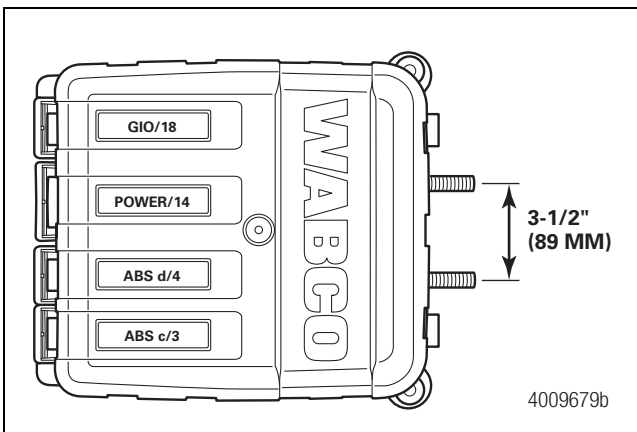

Figure 6.7
- Attach to the cross member. The center-to-center distance between the two holes must be 3-1/2-inches (89 mm) and mount directly to a rigid structure. Figure 6.7.